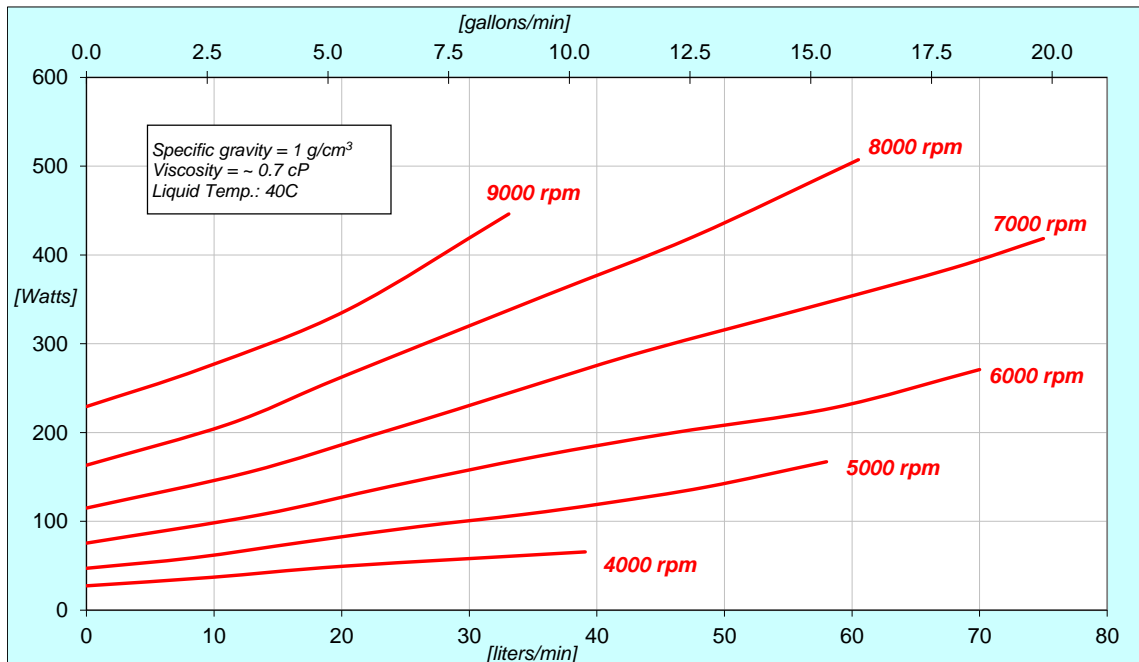

Figure 13: Electrical power consumption
4. The pump system requires 48 VDC supply voltage at a maximum power of 600 W. Depending on the hydraulic operational point power supplies with smaller power or bigger supplies to supply several pump systems simultaneously may be used. *Figure 13* shows the power consumption depending on the pressure and flow rate. Contact Levitronix for consulting and support on the power supply solution.